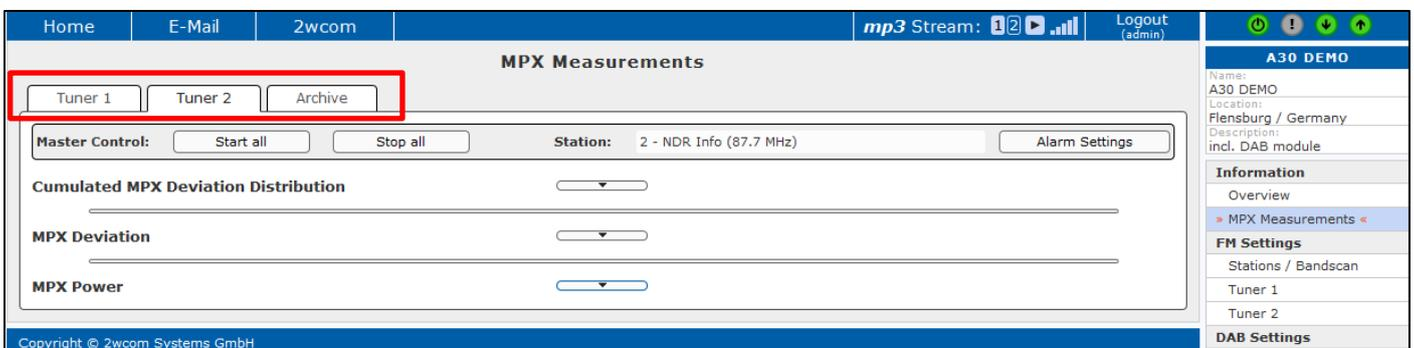

Fig. 47: Settings for MPX measurements
5. To start all measurements of the currently tuned station at once (Tuner 1 or Tuner 2), click "Start all" button in the "Master Control" block (see Fig. 47) or
7. To change the view of the measurements between Tuner 1, Tuner 2 and MPX Input click to the corresponding tab in the same block (see Fig. 47 red box).